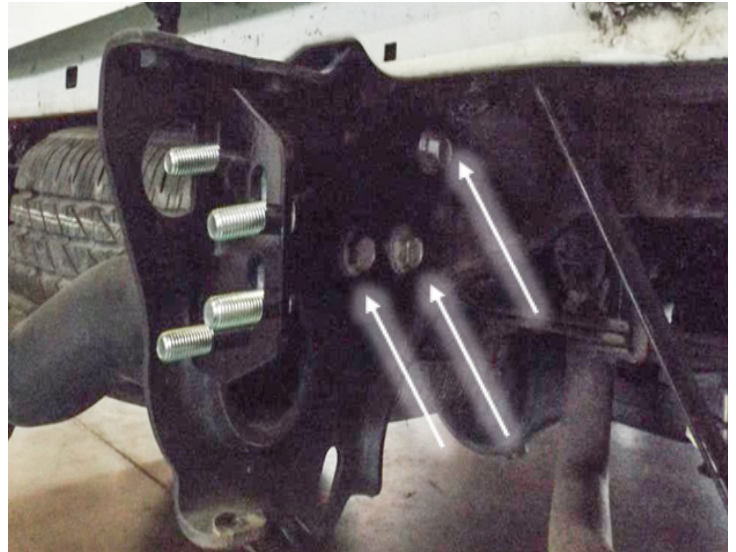

Figure 4
10. Using the OE Hardware install the supplied intermediate mounting brackets (20367 & 20368) to the hitch frame plate. Four (4) stud plates (20296) should be inserted into the slots of the mounts after mounting the brackets (20367 & 20368) to the frame rails. Complete on both driver and passenger sides of vehicle. Do not fully tighten, snug up only. (Figure 4)